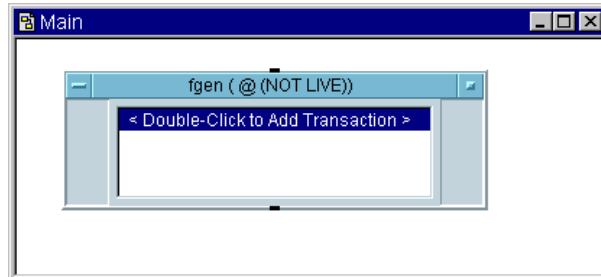

Figure 92 A Direct I/O Object
- 4 To place the object on the screen, make sure that **fgen(@NOT LIVE))** is still highlighted, and click **Create I/O Object ⇒ Direct I/O**. Figure 92 shows the Direct I/O object.